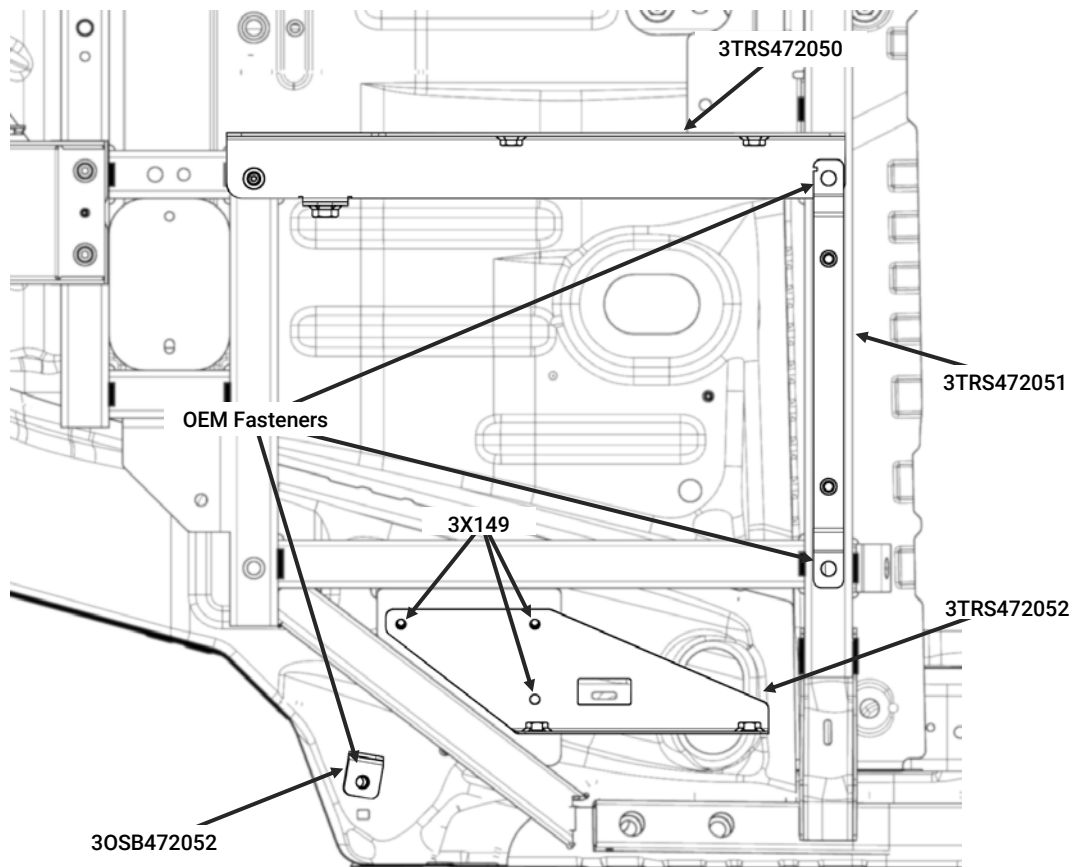

Figure 10
5. Place the Outer Seat Bracket back into position on the OEM gusset and slide the Outer Seat Bracket Nut Plate [3TRS472053] under the gusset. Securely fasten the bracket using (3) [3X149] 5/16-18X3/4" button head screws and a 3/16" hex wrench.
8. Place the OSB Buckle [3OSB109RP] against the outboard face of the Outboard Seatbelt Tab. Secure the buckle in place using a 5/8" wrench and socket and (1) [3X616] 7/16-20X1" grade 8 hex bolt and (1) [3X614] 7/16-20 grade 8 hex nut.
9. Figure 10 shows the locations of the seat brackets.